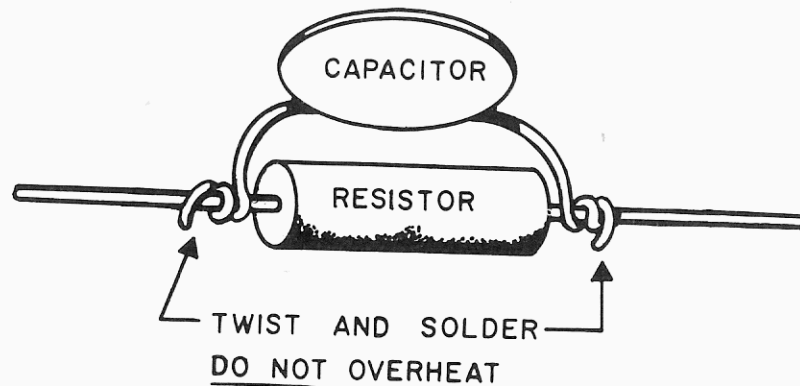

FIGURE 10
- R-1, 22K resistor (red, red, orange) and C-5, 20 $\mu\mu\text{f}$ disc capacitor. Wrap the leads of C-5 around the leads of R-1 as shown in Figure 10. Solder both leads of C-5 and cut the excess lengths.